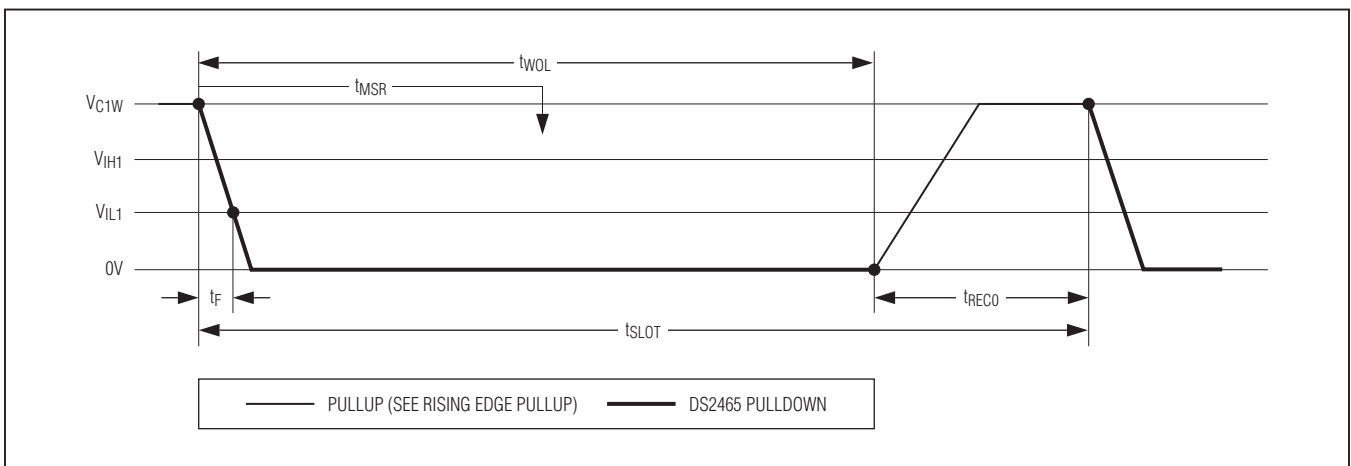
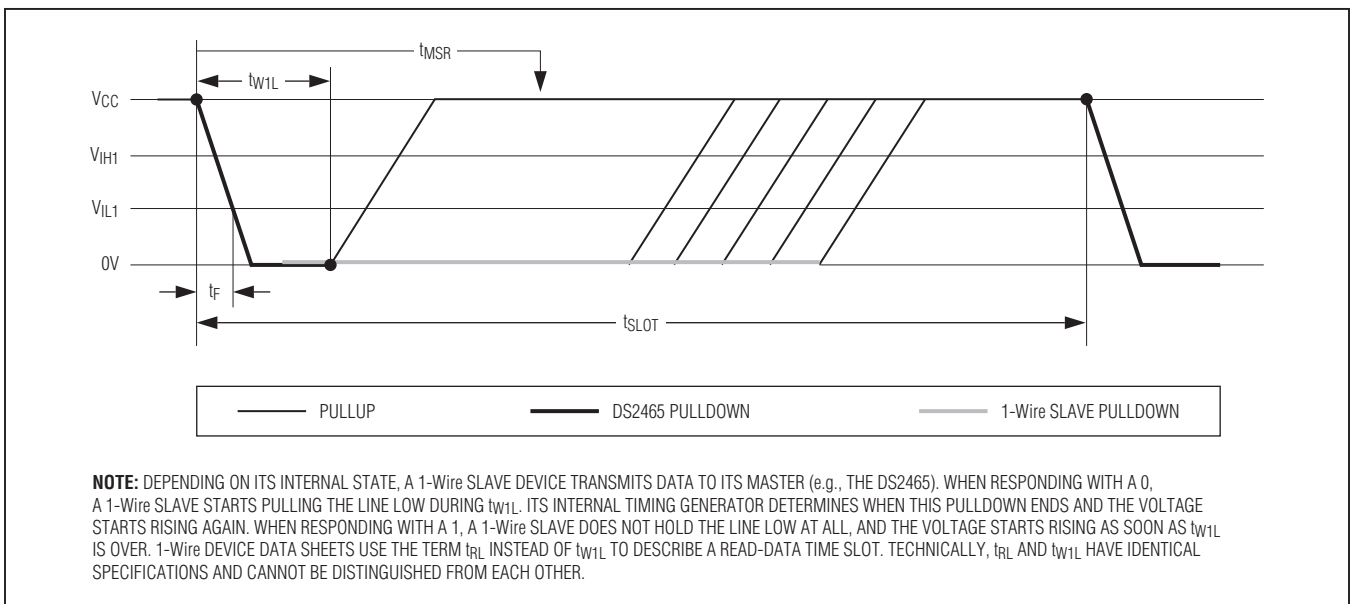

Figure 6. Write-Zero Time Slot
Figure 7. Write-One and Read-Data Time Slot
**Bit 7: Bit value (V).** This bit specifies the type of time slot to be generated. If V = 0, a write-zero time slot (Figure 6) is generated. If V = 1, a write-one time slot (Figure 7) is generated, which also functions as a read-data time slot.